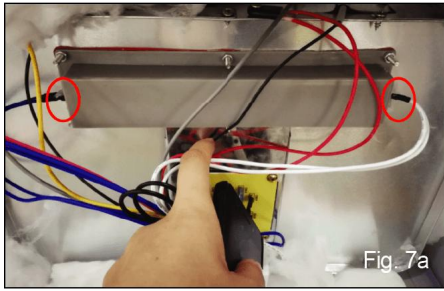

Fig. 7a
10. Reattach both lines and tighten the screws of the box. See Fig. 7a & 7b.